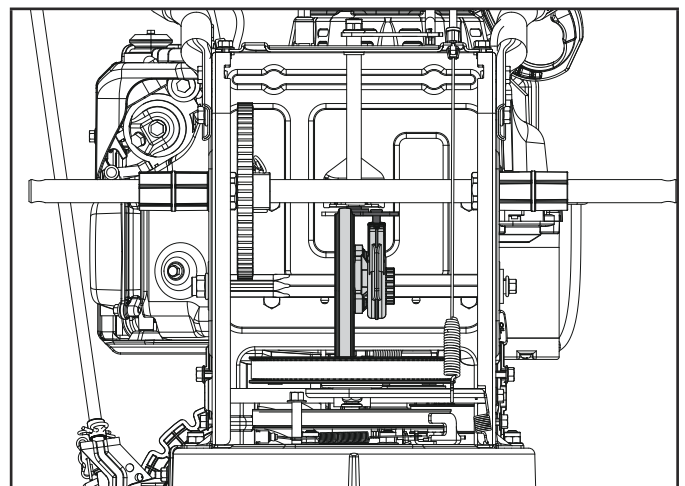

Figure 47
8. Clean the aluminum friction disc by wiping down with a clean cloth and follow the previous steps in reverse order to reassemble hexagon shaft parts. Make sure the parts are aligned as shown when finally assembled (Fig. 47).